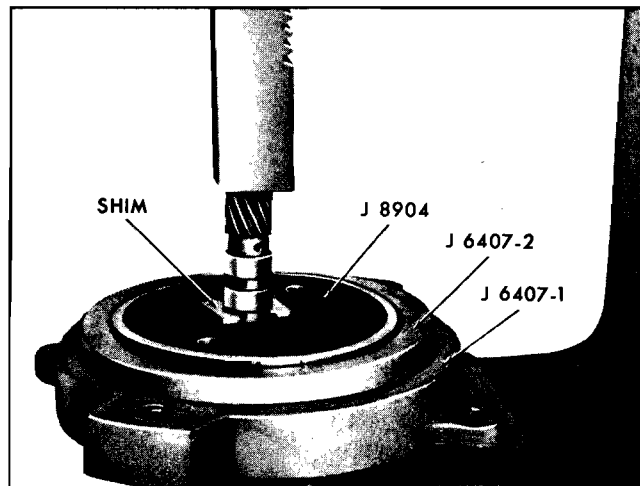

Fig. 7F-13 Installing Governor Driven Gear
1. Assemble speedometer gear and sleeve assembly (Fig. 7F-17). Driven gear shaft oil seal lip must face driven gear.